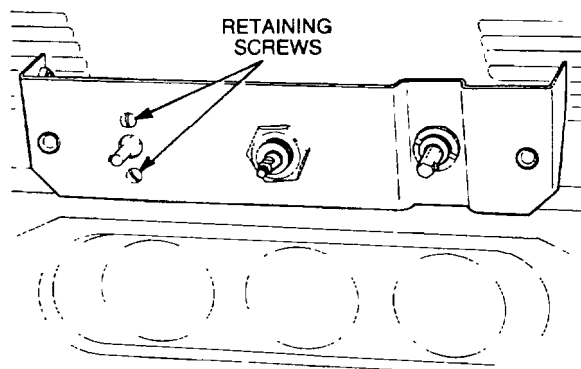

Figure 169 Blackout Lighting Switch Removal
- g. Remove the two round-head screws securing the switch to the bracket and remove the switch (Figure 169).